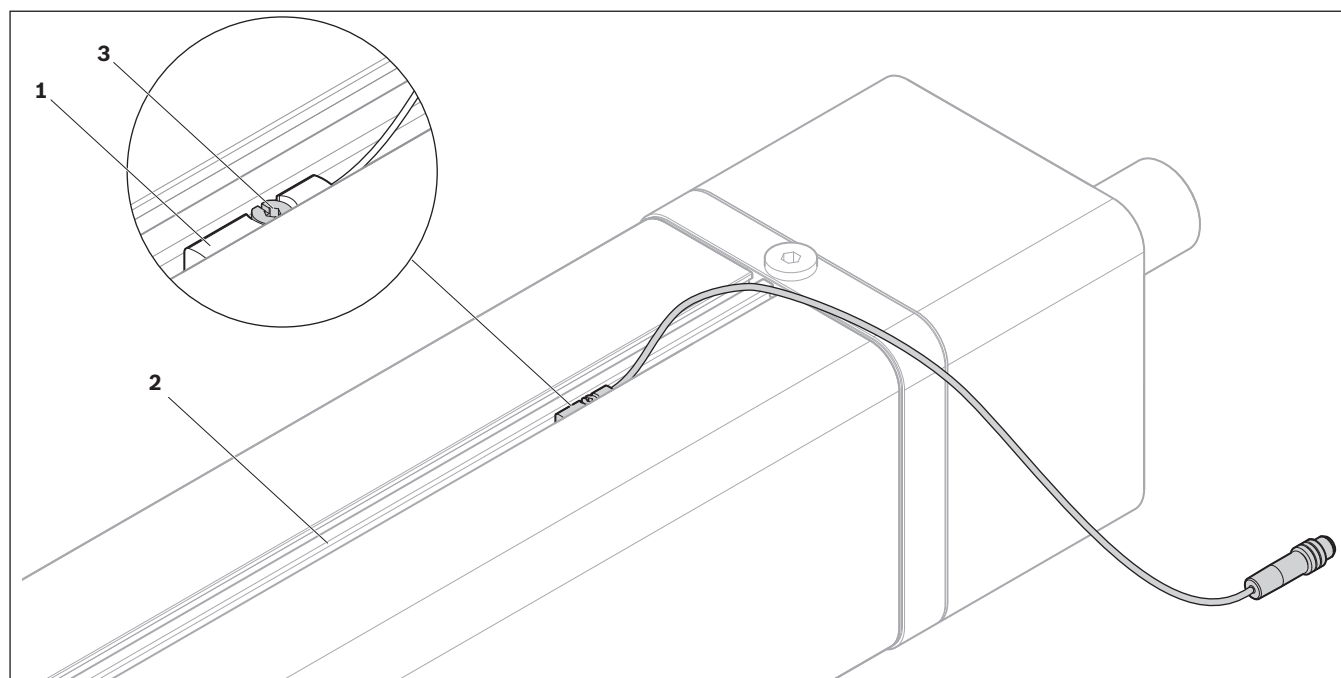

Fig. 25: Mounting the switches
1. Insert the switches (magnetic field sensors) **(1)** in the T-slot of the housing **(2)** in such a way that the clamping screw **(3)** points outwards ➡ Fig. 25.
1. Fix by turning the clamping screw **(1)** ➡ Fig. 25 on page 25. Tighten the screw by hand and check the switch is secure.